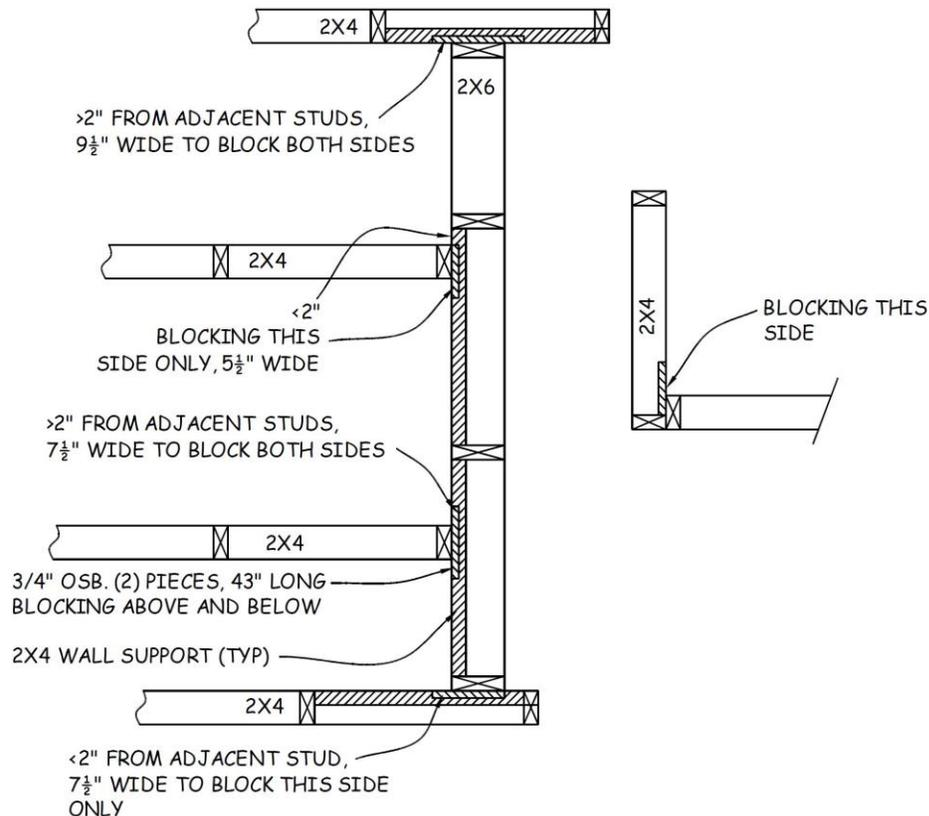

Figure 10-4. Blocking For Wall Rock.
4. Install two 43" long pieces of 3/4" OSB blocking at the ends of any interior walls that intersect an exterior wall – one above the 2x4 ladder block and one below the 2x4 ladder block. The blocking must extend at least 2" beyond the edges of the stud, so cut the OSB to a width of 5 1/2" or 7 1/2" for a 2x4 wall and 7 1/2" or 9 1/2" for a 2x6 wall. Pre-drill four pairs of 3/16" holes, spaced evenly vertically, through the stud (about 1/2"-3/4" in from each edge). To attach the blocking, hold the piece of OSB in place, making sure it is tight (no gaps) to the outside of the end stud (use a clamp, if necessary). Attach the OSB blocking by screwing 2 1/2" screws through the holes in the 2x4 into the OSB, turning the screw until it is buried about 1/4" into the stud. If there is access to drive screws from the blocking side of stud, it is acceptable to use two layers of 1/2" OSB. See Figure 10-4.
5. Where an interior wall intersects an interior wall (See Figure 10-4), install blocking using 2x4's, 3/4" OSB, or two layers of 1/2" OSB. Secure the blocking to the end stud using 16d nails for 2x4 blocking and 2 1/2" screws for OSB blocking.